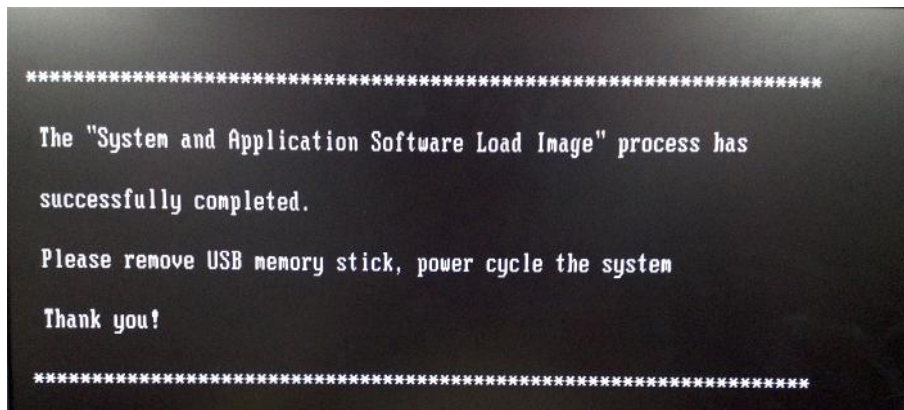

Figure 8-15 System upgrade complete
9.) System updating finished, refer to Figure 8-15 on page 8-7 .